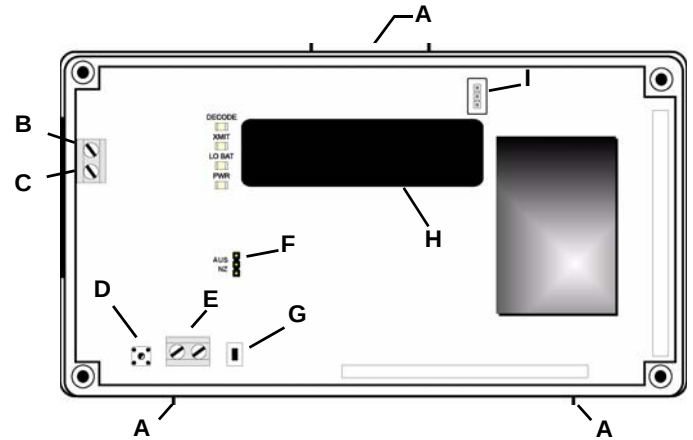

Figure 2 EN5000 Components
1. Use a small screwdriver to press the housing release tab on the top or bottom of the high-power repeater (Fig. 2); separate the housing.
2. Connect power cabling to the Vs and GND connections (Fig. 2).
1. Plug the connector cable from the backup battery into the battery connector (Fig. 2).
1. Use a small screwdriver to press the housing release tab on the top or bottom of the receiver (Fig. 2); separate the housing.
2. Place a selection jumper on the appropriate frequency band selection pins (Fig. 2).